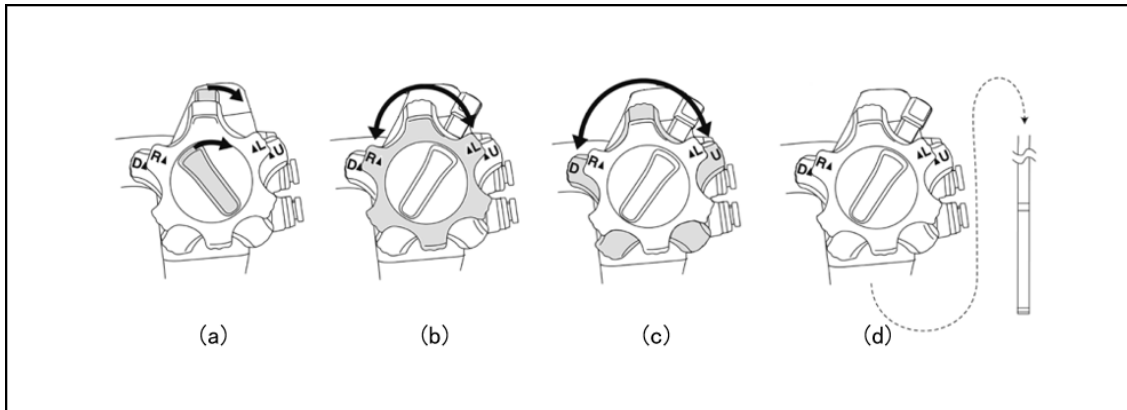

Figure 3.16
1. Confirm that the up/down and left/right angle locks are in the “F ▶” position, as shown in Figure 3.16(a).
2. Slowly rotate the up/down and left/right angle control knobs to the full range of motion, and then return to the natural position. Make sure that the bending operation of the bending section is smooth and normal, and that it is able to achieve maximum amplitude and return to its natural position, as shown in Figures 3.16(b) and (c).
- As shown in Figure 3.16, slowly rotate the up/down and left/right angle control knobs to their respective natural positions, and confirm that the bending section can smoothly return to a nearly straight state, as shown in Figure 3.16(d).